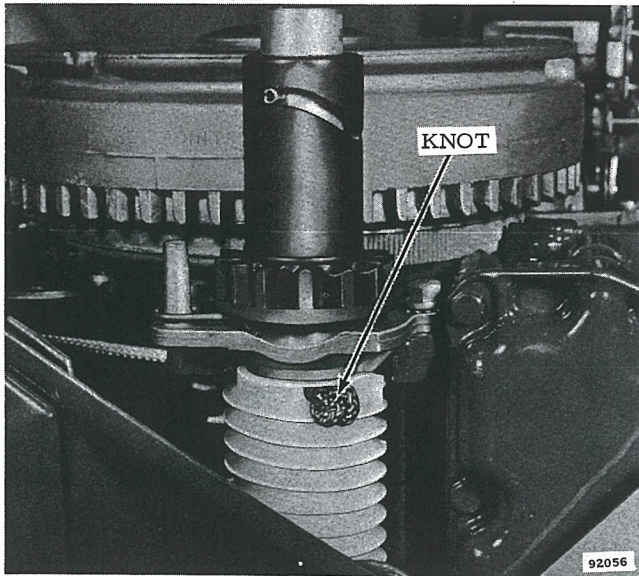

Figure 7-5. Rope Anchor in Spool
d. Cut new rope to a length of 66-3/4 inches, and fuse ends for a length of 1/2 inch, using a match or cigarette lighter. Ends must be stiff to hold in spool or rope anchor. Tie knot in end of new rope. See Figure 7-5.